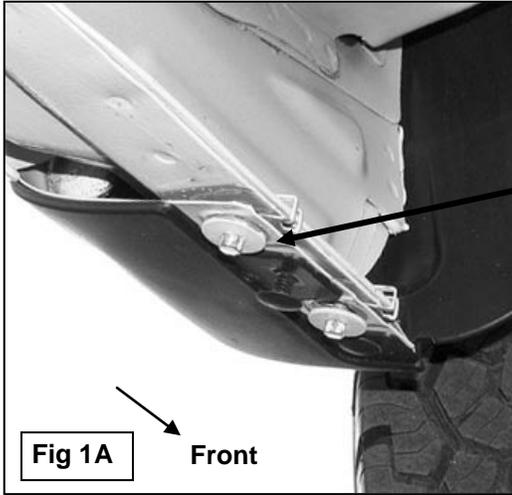

Fig 1A Front
2. Starting at the front of the driver side of the vehicle, remove the two small hex bolts and the metal clips holding the bottom of the fender to the body, (**Figure 1A**). **NOTE:** Use a small flat screwdriver to spread the clip apart for easy removal. Due to body panel misalignment from the factory, it may be necessary to open these holes slightly with a 3/8" drill bit, (**Figure 1B**).
3. Select the driver side front Mounting Bracket. Line up the (2) holes in the pinch weld with the holes in the front Mounting Bracket. Insert (2) 8mm x 30mm Hex Bolts with (2) 8mm x 24mm